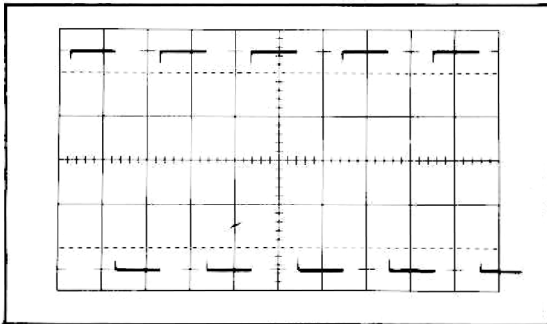

Fig. 5-1. Typical CRT display showing correct vertical gain at 1 mV/cm.
e. Check—Display amplitude must equal  $5 \text{ cm} \pm 0.75 \text{ mm}$ . See Fig. 5-1.